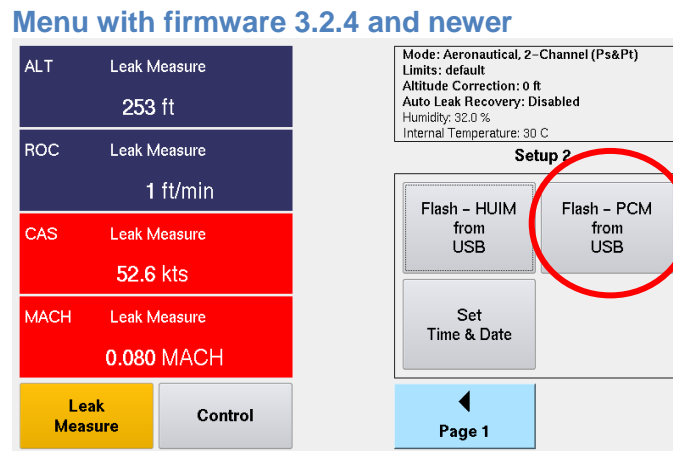

Figure 13 Software Update Screen
16. If the “Warning – PCM Firmware Requires Updating” is displayed, select “OK”. The software menu appears. Touch “Flash – PCM from USB” as shown in Figure 13 below: